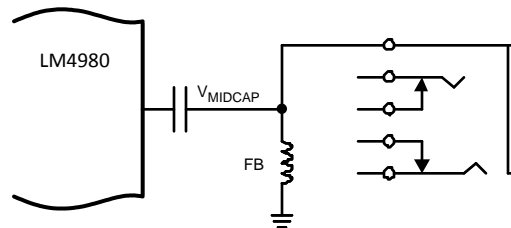

Figure 43. Adding a ferrite bead improves ground-noise suppression
In addition to the output-ground noise reduction afforded by C_{MIDCAP} , further reduction can be achieved by the inclusion of a ferrite bead. The ferrite bead (FB) is placed between ground and common connection between the C_{MIDCAP} and the headphone ground connection. This is shown in Figure 43. The ferrite bead is beneficial in environments where the headphone and C_{MIDCAP} ground connection is shared with circuitry (such as video) that may inject noise on a common ground.